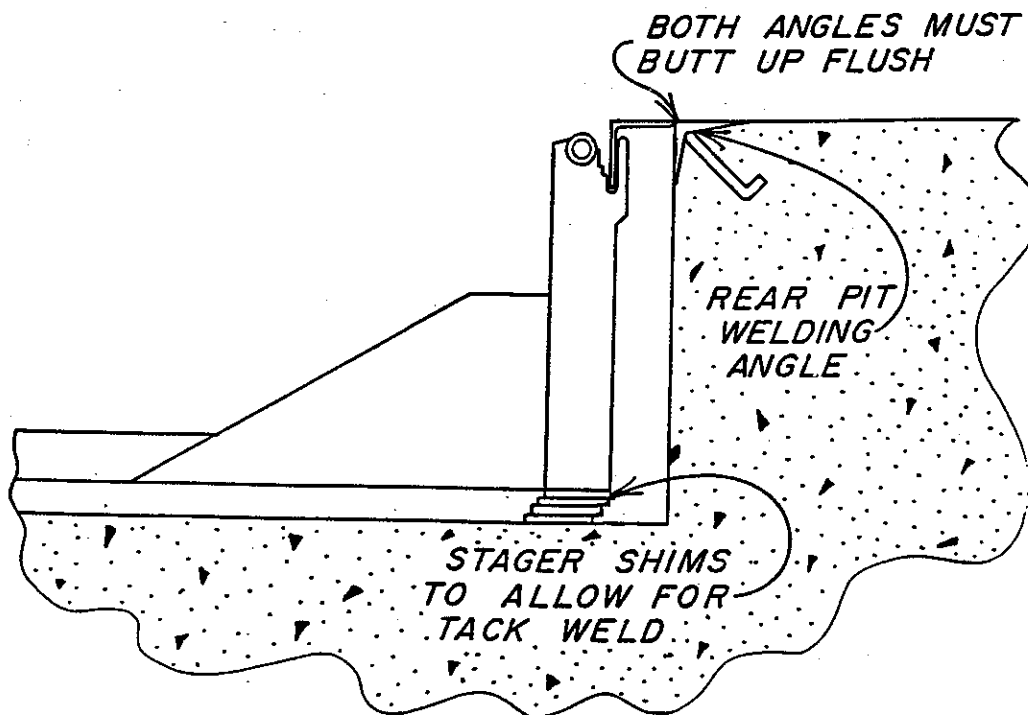

figure 4
6. Once a flush fit is obtained all around the leveler, tack weld the two rear angles together. (See figure 4)